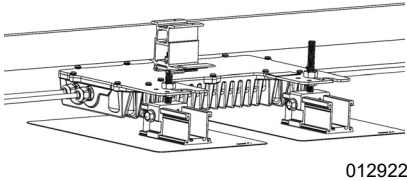

Figure 5-3. Installing to rail-less Racking
2. See Figure 5-3. Use two fasteners compatible with the mounting structure.